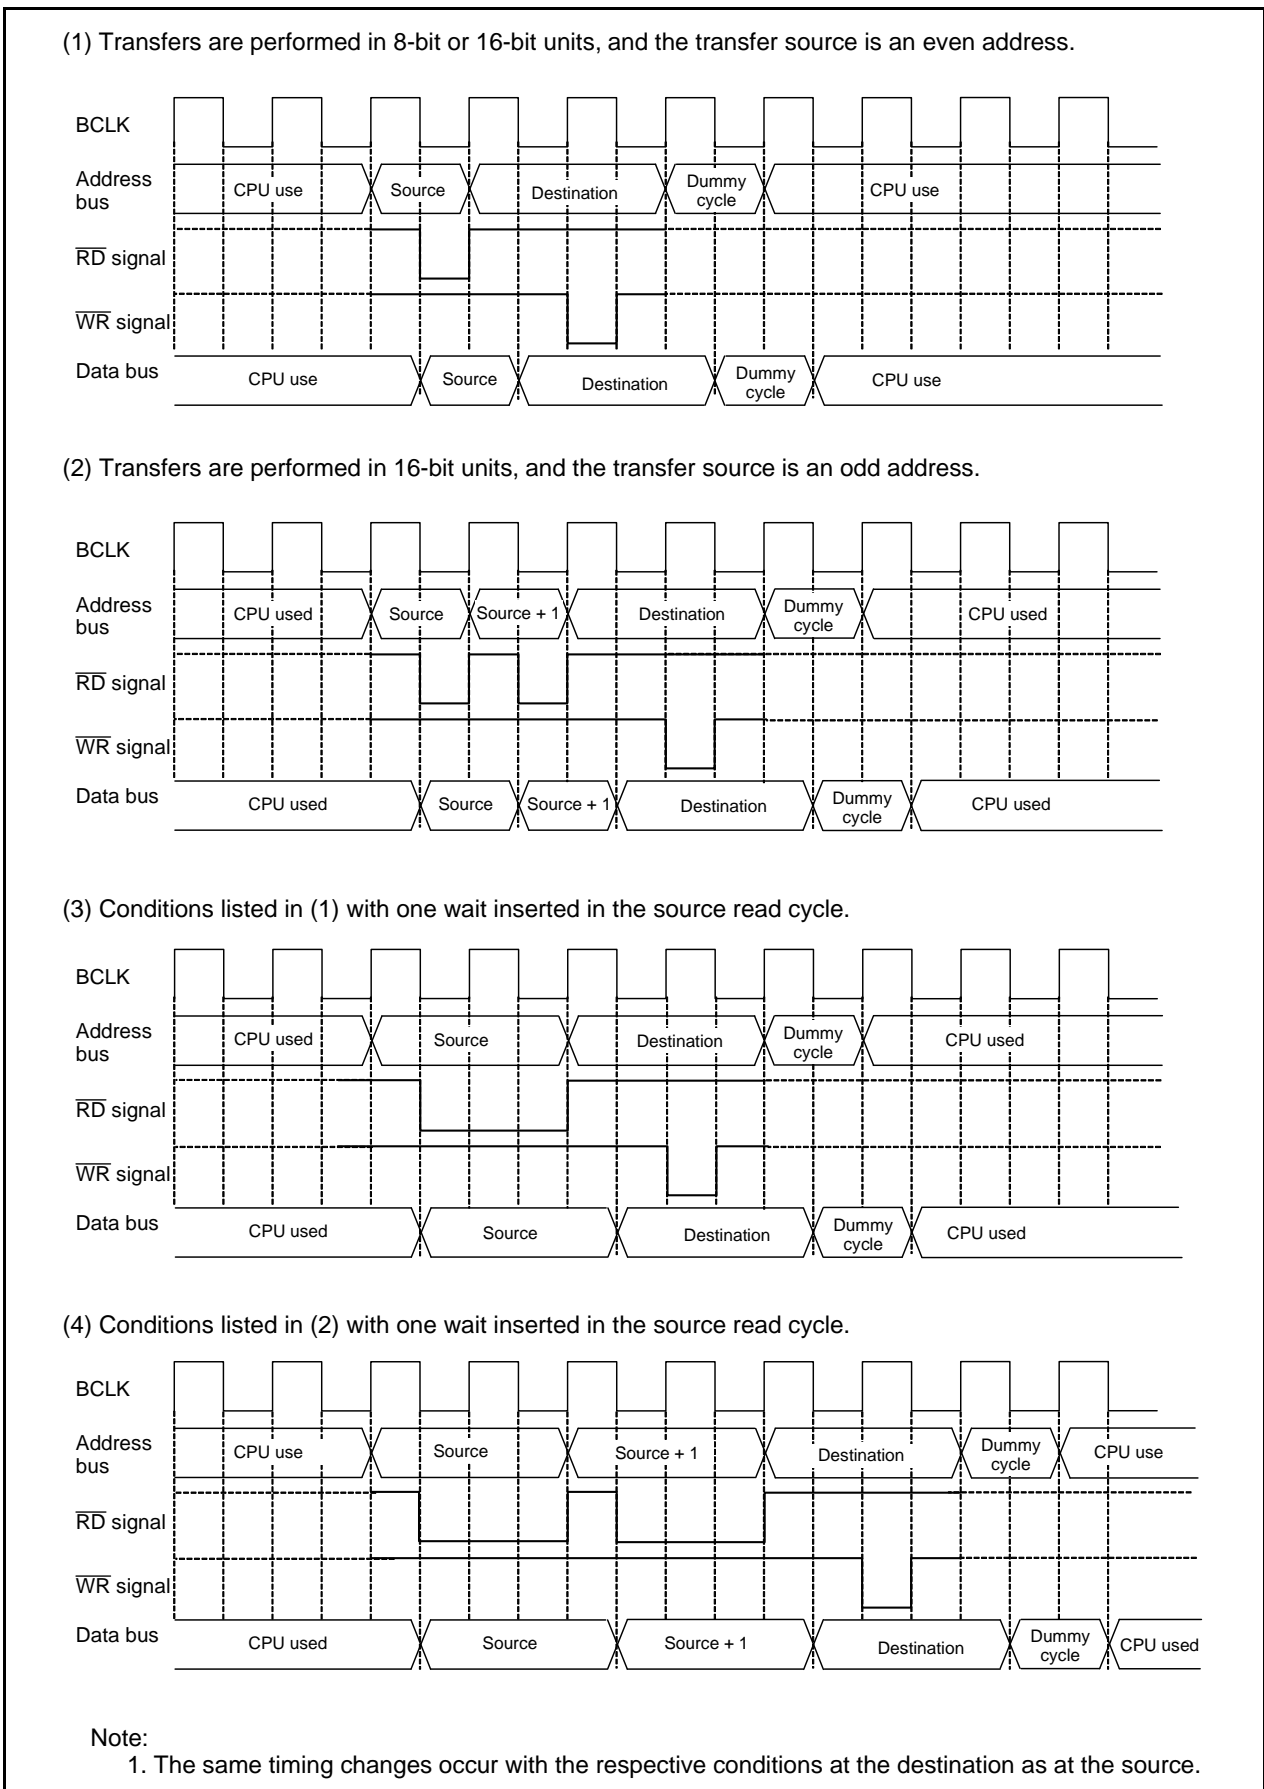

Figure 16.2 Source Read Cycle Example
Figure 16.2 shows Source Read Cycle Example. For convenience, the destination write cycle is shown as one bus cycle and the source read cycles for the different conditions are shown. In reality, the destination write cycle is subject to the same conditions as the source read cycle, with the transfer cycle changing accordingly. When calculating transfer cycles, take into consideration each condition for the source read and the destination write cycle. For example, when data is transferred in 16-bit units, and the source and destination addresses are both odd addresses ((2) in Figure 16.2), two source read bus cycles and two destination write bus cycles are required.